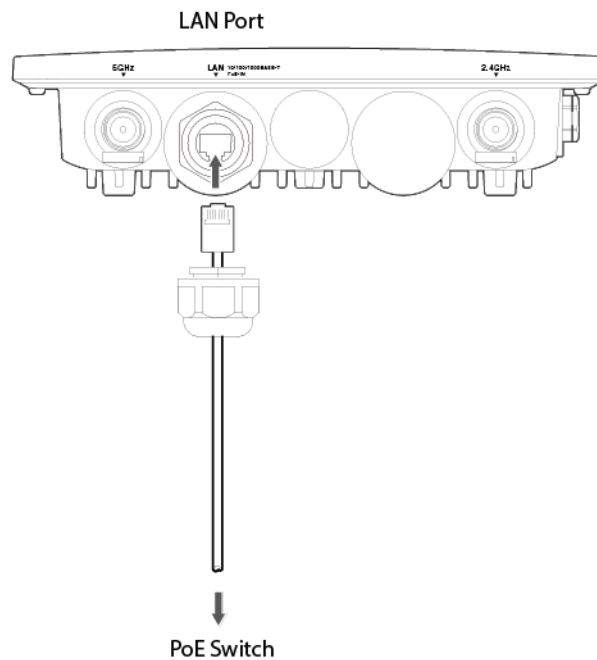

Figure 13. Connecting the LAN Cable and Attaching the Sealing Nut
4. Connect the RJ-45 plug into the LAN port and screw the sealing nut to the access point. Refer to Figure 13.